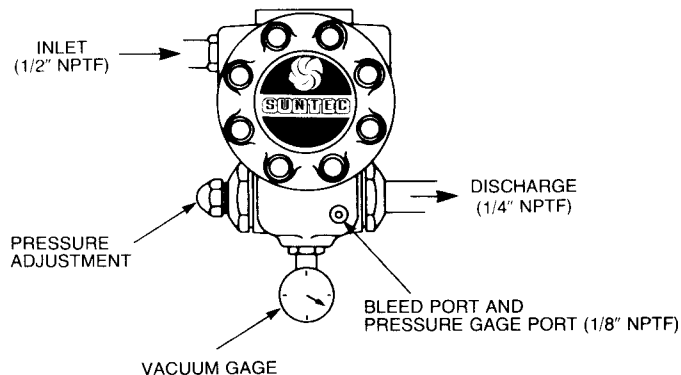

Figure 3. Pump Connections
D. Pump Connections. Connections at the pump should be made in accordance with Figure 3. As noted, a vacuum gage should be installed in the unused inlet port. During operation, vacuum should not exceed 20" Hg. A pressure gage, if required, may be installed in the bleed port.